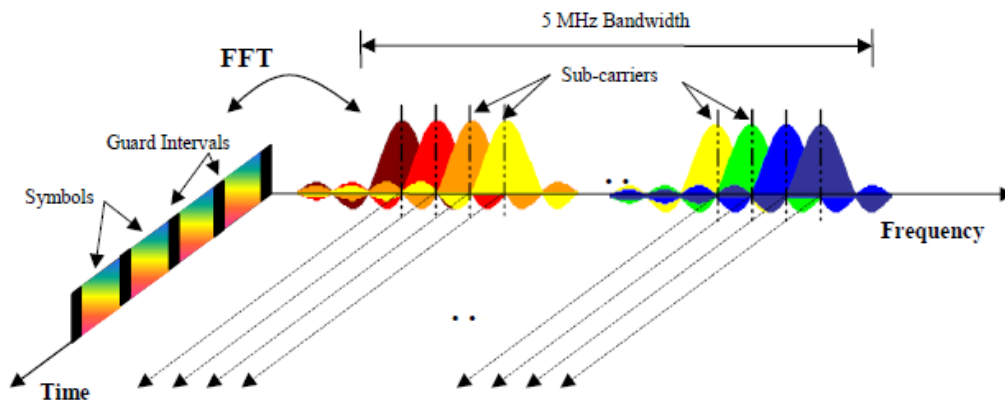

Fig. 1-1: Frequency-Time Representation of an OFDM Signal
figure 1-1 shows a representation of an OFDM signal taken from 3GPP TR 25.892 [2]. In this figure, a signal with 5 MHz bandwidth is shown, but the principle is of course the same for the other EUTRA bandwidths. Data symbols are independently modulated and transmitted over a high number of closely spaced orthogonal subcarriers. In EUTRA, downlink modulation schemes QPSK, 16QAM, and 64QAM are available.
The vector s_m is defined as the useful OFDM symbol. It is the time superposition of the N narrowband modulated subcarriers. Therefore, from a parallel stream of N sources of data, each one independently modulated, a waveform composed of N orthogonal subcarriers is obtained, with each subcarrier having the shape of a frequency sinc function (see figure 1-1).
One downlink slot consists of N_{symb}^{DL} OFDM symbols. To each symbol, a cyclic prefix (CP) is appended as guard time, compare figure 1-1. N_{symb}^{DL} depends on the cyclic prefix length. The generic frame structure with normal cyclic prefix length contains $N_{symb}^{DL} = 7$ symbols. This translates into a cyclic prefix length of $T_{CP} \approx 5.2 \mu s$ for the first symbol and $T_{CP} \approx 4.7 \mu s$ for the remaining 6 symbols. Additionally, an extended cyclic prefix is defined in order to cover large cell scenarios with higher delay spread and MBMS transmission. The generic frame structure with extended cyclic prefix of $T_{CP-E} \approx 16.7 \mu s$ contains $N_{symb}^{DL} = 6$ OFDM symbols (subcarrier spacing 15 kHz). The generic frame